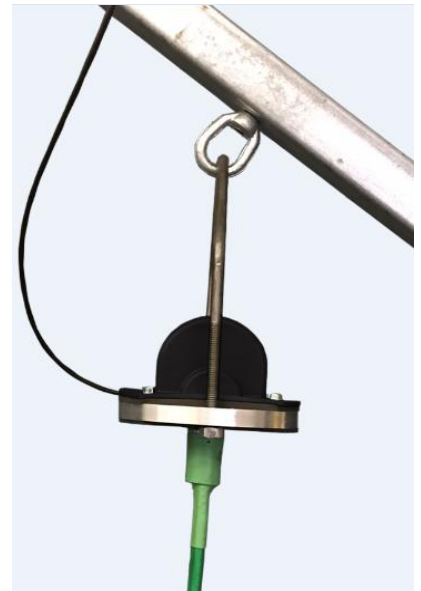

Figure 2
3. Install a hanging support fastener from a bin truss or beam. Typical installation calls for an eye nut to be drilled and bolted to the bin truss or beam. Please refer to the included PDR/SDR Hanging Cable Eyebolt Support Manual procedures. (*Manual # 700025*) (*Figure 2*)